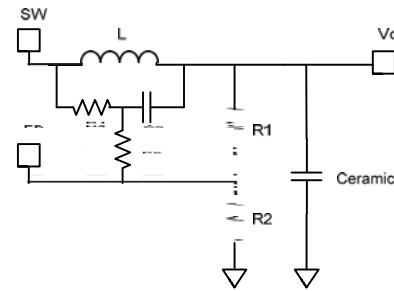

Figure 8: External Ramp Compensation
Figure 8 shows a simplified external ramp compensation for PWM mode. V_{ramp} on FB can be estimated with Equation (5):